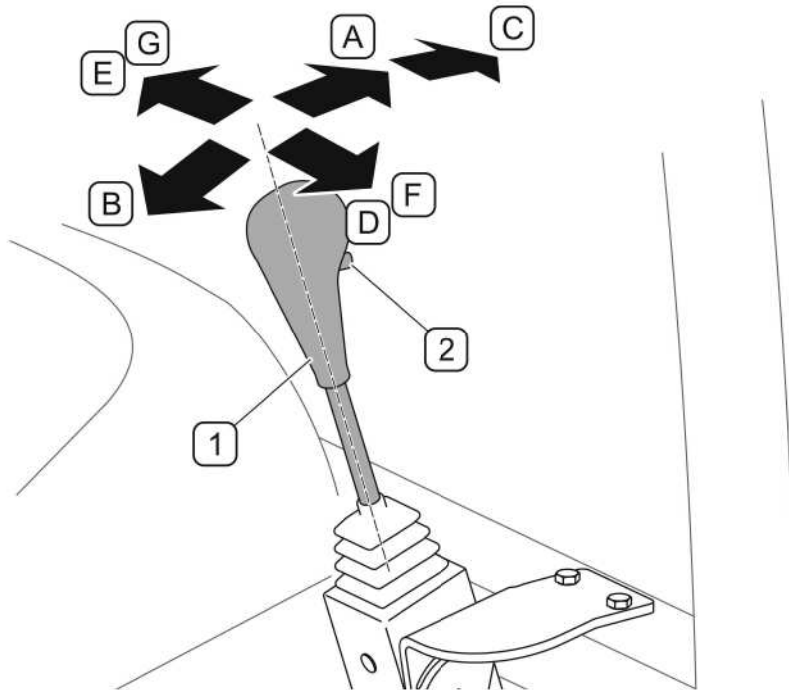

FIG. 4.17A Controlling the loader
Position (F) and (G) (FIG. 4.17A) is applied in implement equipped with hydraulic system (e.g. manure grab, bale grab, silage cutter etc.) connected to front loader quick coupler (3-section control). To open the implement set lever to the extreme right position and additionally press button (2) (FIG. 4.17A) in lever handle. To close implement press button (2) and set control lever in left setting.